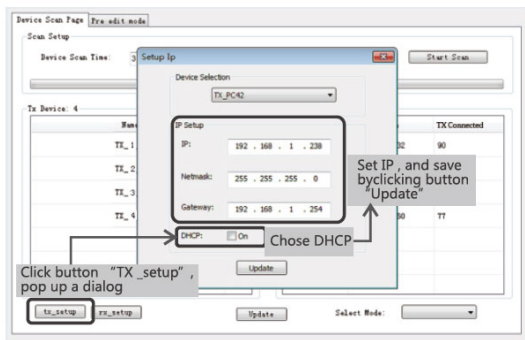

Figure 2
1. Click Tx_setup, see Figure 2.